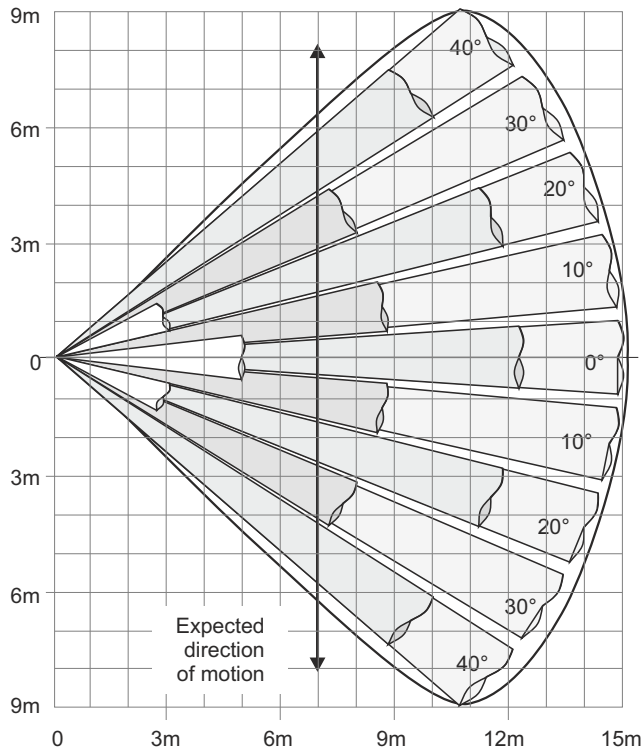

Fig. 2
- * Maximum sensitivity is achieved when mounted crosswise to the horizontal detection zones of the PIR sensors. Therefore, select a mounting site that runs crosswise to the expected direction of motion (see Fig. 2).